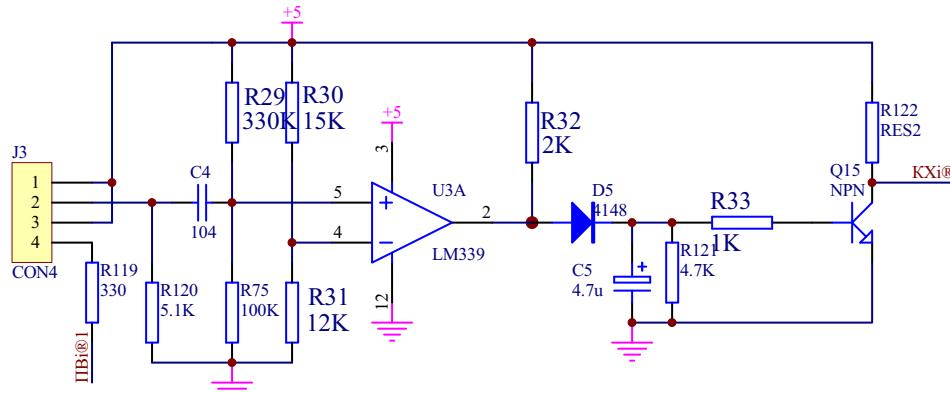

Fig.22B Stacker Sensor Circuit Diagram
### (2) NEW PRO85,PRO85U Circuit (Fig.22B)